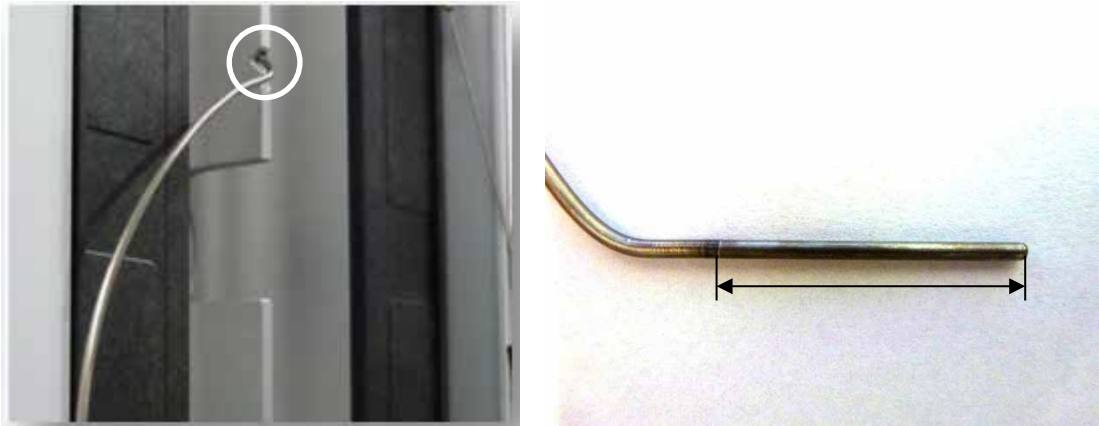

Figure 10: Left: VH-C10-A (revision 01) – Position of the temperature sensor; Right: measuring area of the temperature sensor
1. Fix the temperature sensor as shown in Figure 10 for module VH-C10-A revision 01 and / or as shown in Figure 11 for VH-C10-A revision 02 and VC-C10-A.